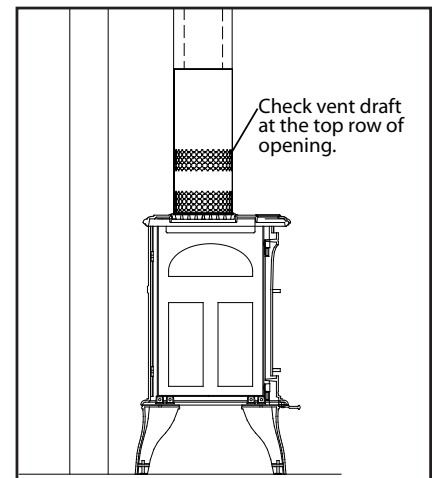

Figure 48: Draft test place.
4. After a minimum of 10 minutes operation, test the chimney draft with a smoke match at the top row of the pattern to confirm that there is adequate draft or 'pull' at the openings around the body of the DrafhooD Adaptor, as shown in Figure 48.
2. Place the log set into the firebox. Locate each log by seating it down onto the burner tray support pins. Follow Figures 48 to 54 proper log placement.